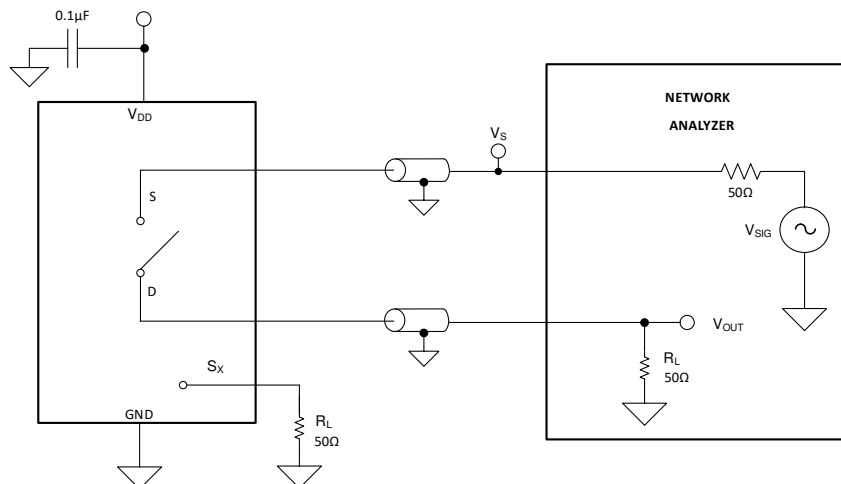

Figure 22. Off Isolation Measurement Setup
Off isolation is defined as the ratio of the signal at the drain pin (D) of the device when a signal is applied to the source pin (Sx) of an off-channel. Figure 22 shows the setup used to measure, and the equation used to calculate off isolation.